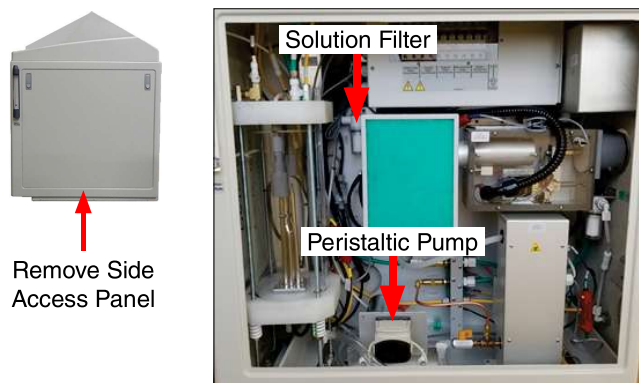
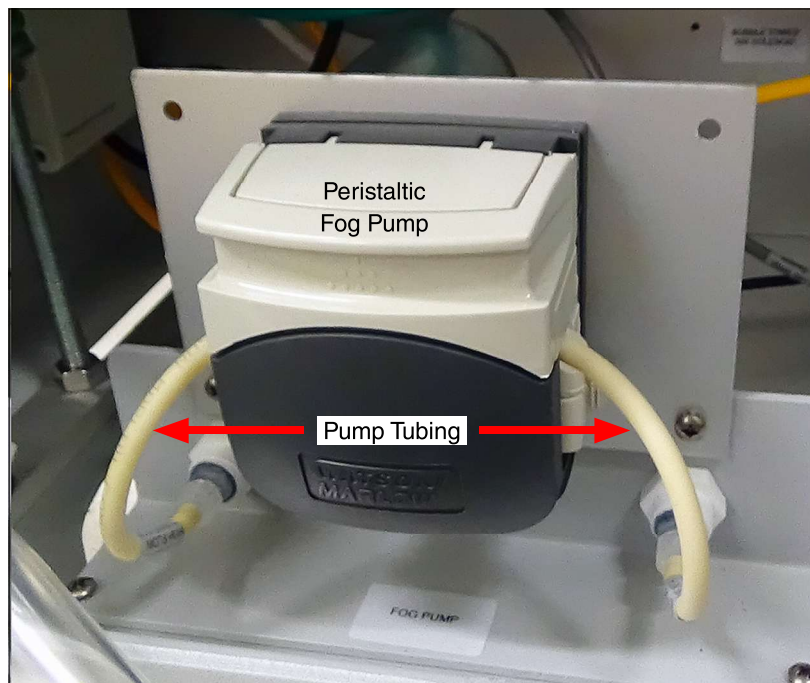

Figure 8.7a: Peristaltic pump location (right side access panel removed, CCT model shown).
Figure 8.7b: Peristaltic pump detail.
- A peristaltic pump (Figure 8.7a and Figure 8.7b) is used to supply salt solution to the fog nozzle.
- The salt solution filter (Figure 8.7a) before the pump prevents particles or contaminants from entering the pump and nozzle.